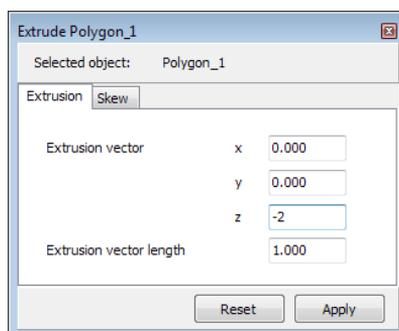

Figure 1.8 *Extrude* window
- Change the *z* value to -2 in the *Extrude* window (Figure 1.8). Click the *Apply* button to close the window.